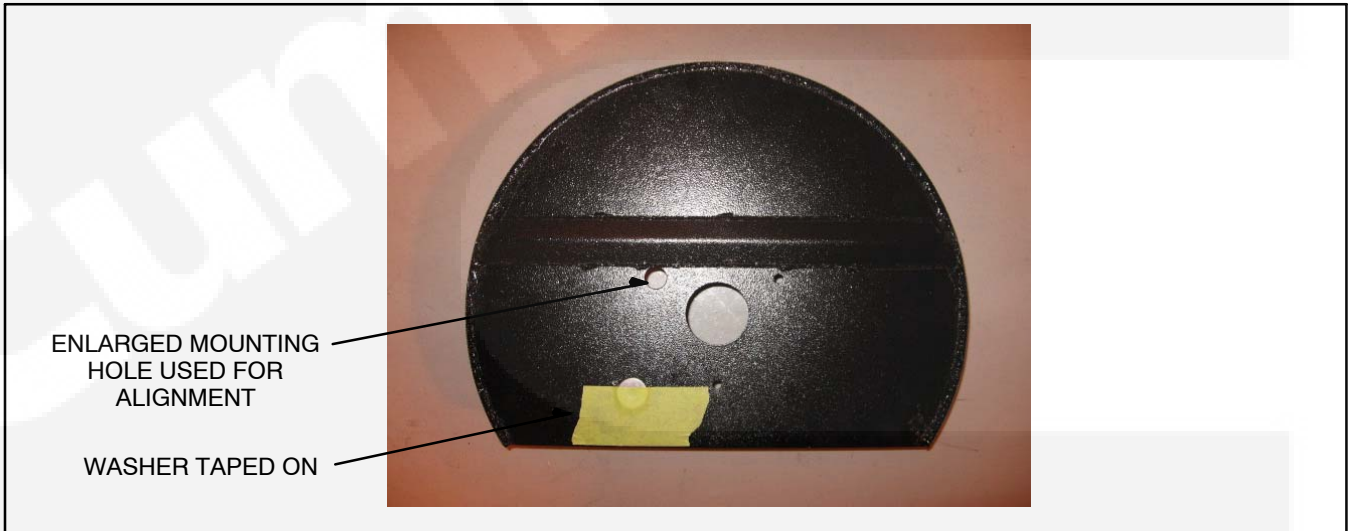

FIGURE 4-6. MODIFIED SPLASH GUARD INSTALLATION
A splash shield kit, part number 026-00362, is available from Onan Indiana [WWW.ONANINDIANA.COM](http://WWW.ONANINDIANA.COM) or your distributor. The kit consists of a shield and V-ring seal that provide added protection for the Protec generator from road spray, and is recommended to prevent excessive moisture from damaging the front generator bearing. The splash shield may require modification to fit driveshaft or frame clearances on some installations (see Figure 4-6). The splash guard is installed as follows:
- Slide the splash shield over the PTO shaft against the face of the bearing cover (see Figure 4-6).